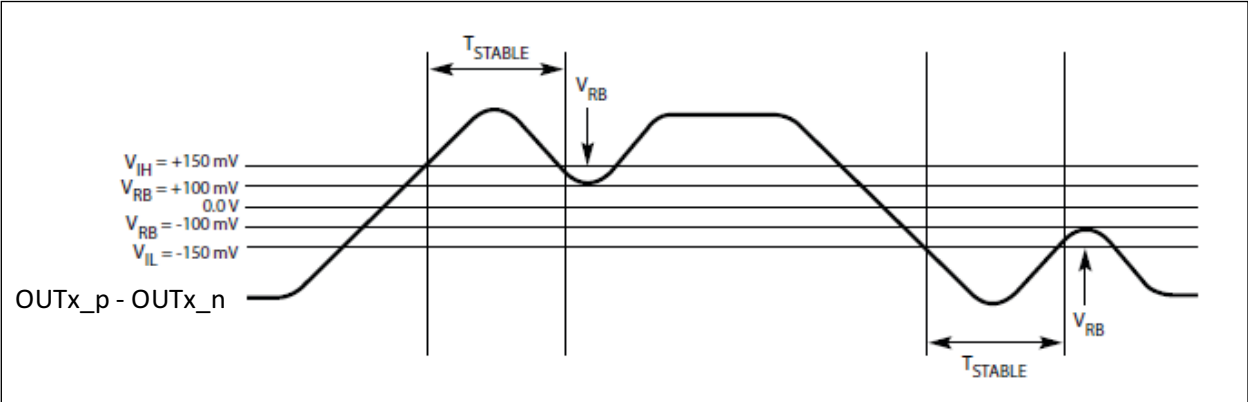

FIGURE 3-5: Differential Measurement Points for Ringback.
- 12:** The t_{STABLE} is the time the differential clock must maintain a minimum ± 150 mV differential voltage after 20 rising/falling edges before it is allowed to droop back into the $V_{RB} \pm 100$ mV differential range. See Figure 3-5.
12: The t_{STABLE} is the time the differential clock must maintain a minimum ± 150 mV differential voltage after 20 rising/falling edges before it is allowed to droop back into the $V_{RB} \pm 100$ mV differential range. See Figure 3-5.